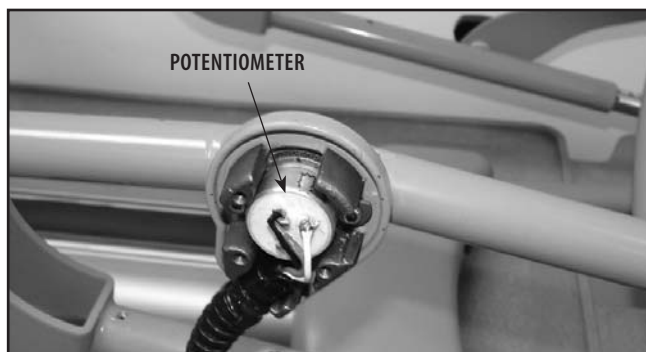

FIGURE 7.7
7. Rotate the Potentiometer by hand until a value between 1.018 Volts - 1.081 Volts is displayed on the Digital Multimeter. **Refer to Figure 7.7.**